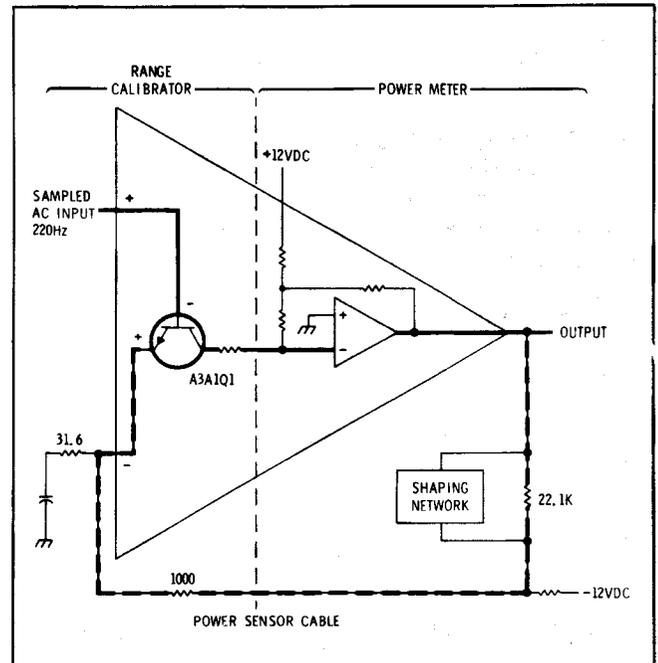

Figure 12. Hybrid Operational Amplifier
The Input Amplifier and the first amplifier in the Power Meter are the component parts of a Hybrid Operational Amplifier. The Amplifier, which has a gain of approximately 730, is shown in Figure 12.
f. Gently lift the FET Assembly and spacer from the circuit board. Refer to Figure 12.